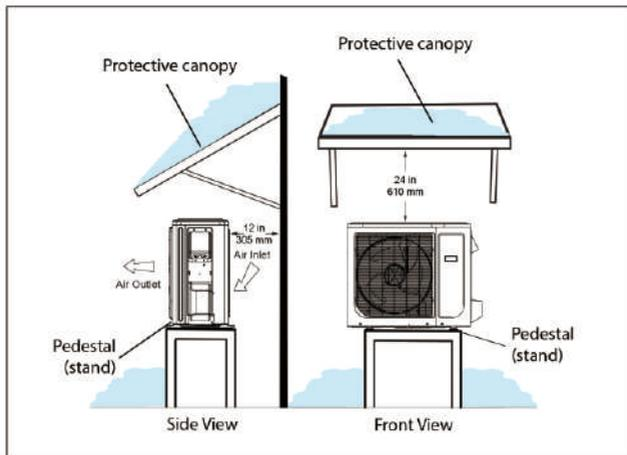

Fig 5.2.1. Outdoor Unit on Pedestal and Protective Canopy
- If the outdoor unit is subjected to prolonged exposure to direct sunlight with temperatures over 100°F (38°C) a canopy is recommended as illustrated in "Fig 5.2.1. Outdoor Unit on Pedestal and Protective Canopy" or "Fig 5.2.1. Dog House-Style Shelter" on page 5.2
- Place unit away from overhanging roof lines which would allow water or ice to drop on, or in front of, coil or into unit. Construct a canopy as illustrated in "Fig 5.2.1 . Outdoor Unit on Pedestal and Protective Canopy".